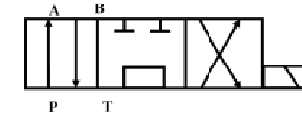

Fig. 27.7a A solenoid operated three-position four-way directional valve symbol
A. In Fig. 27.7a, what is the position of the valve when there is no pressure at both the pilot ports?